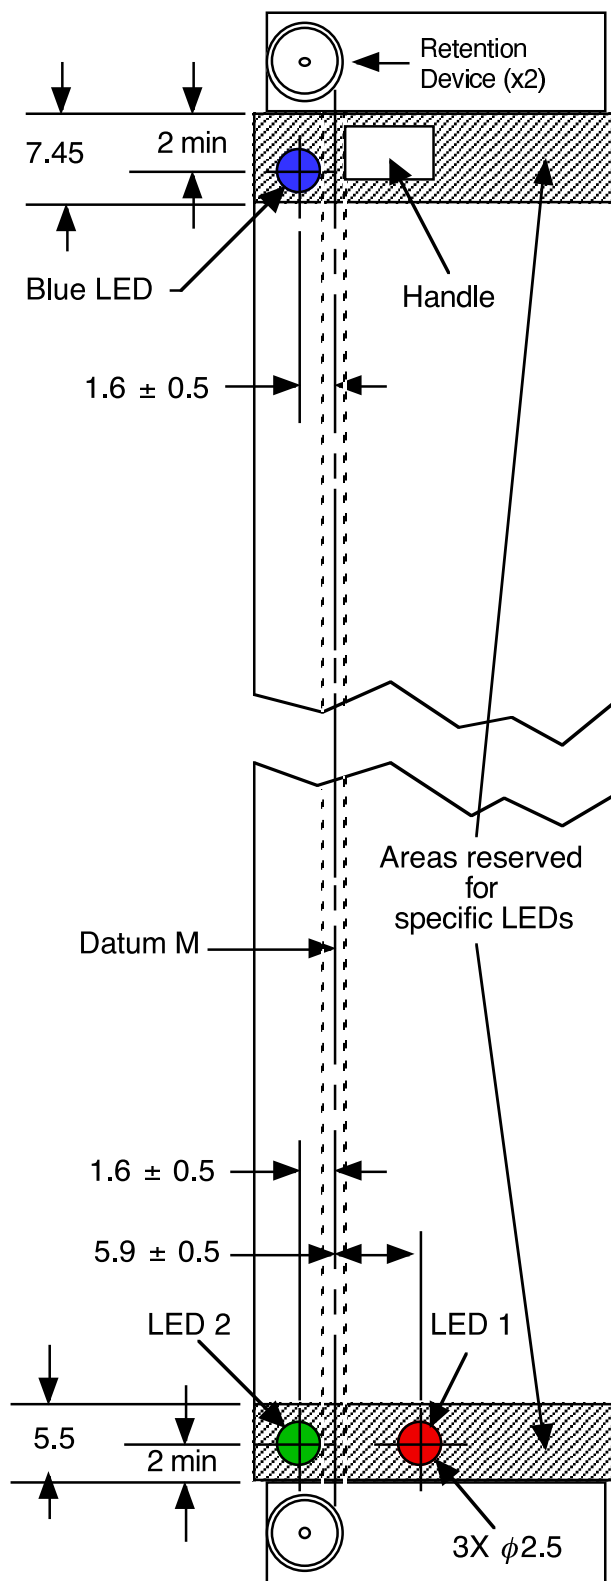

Figure 2-6: μ RTM Face Plate
- ¶ 27 See also PICMG Rugged MicroTCA.1 R1.0, Appendix B for implementations of the retention device. The hardware is the same as for the AMC.0 R2.0, however, the mounting is reversed top to bottom. Figure 2-6 shows the reversed mounting for the LEDs and handle. Bar code and vendor label area is the same as shown in AMC.0 R2.0, Figure 2-20.